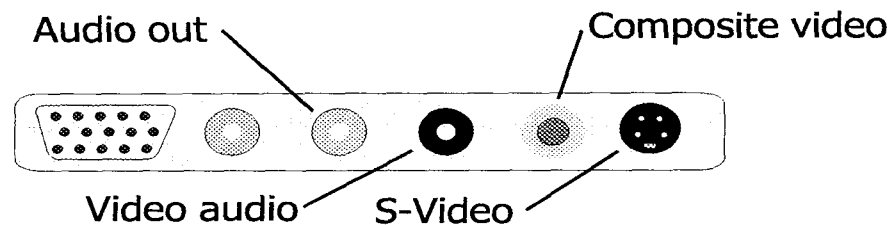

Figure 2: Mite-E-Lite II I/O Panel Video Connection
2. Connect video using either S-Video or composite video (see Figure 2).
6. The audio connection requires a cable from the computer audio out or head set out to the 3.5 mm audio jack located just to the left of the composite video connection (see Figure 2).